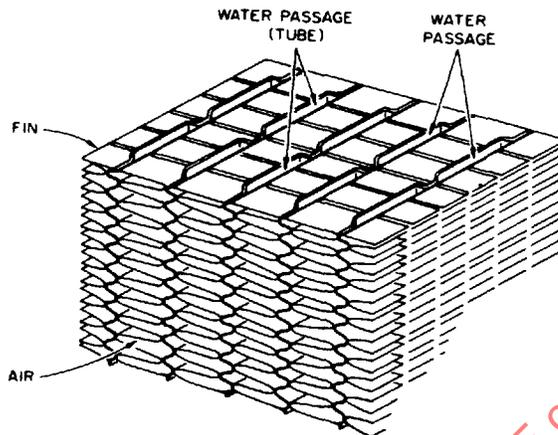

FIGURE 2—CELLULAR CORE
3.2 Cellular Core—A number of fluid passages made by joining metal ribbons at the edges and grouped to form a cellular structure. Parts of the cellular structure may be of formed or flat ribbon which is not a part of the fluid passages. See Figure 2.